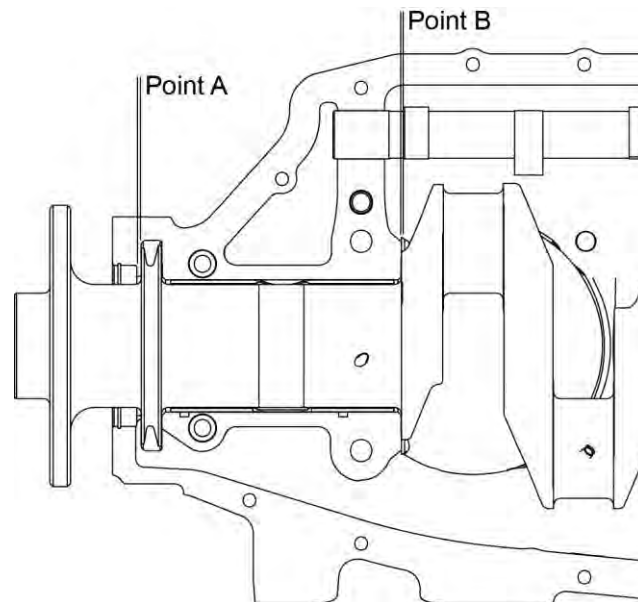

Figure 78
- (1) With the crankshaft installed in the crankcase, move the crankshaft as far forward as possible.
- (2) Use a feeler gage to measure the slinger clearance at Point A (Figure 78). Refer to the limits in Table 3. If the slinger clearance is not within the limits in Table 3, the front face of the slinger can be reground to restore the slinger clearance to within allowable limits.
- (3) Move the crankshaft to the rear as far as possible.
- (4) Use a feeler gage to measure the end play clearance with the crankcase thrust at Point B in Figure 78. Refer to the limits in Table 4. If the endplay clearance is not within the limits in Table 4, examine the crankcase and/or crankshaft for wear or damage. Replace a worn or damaged component.
Slinger Clearance at Point A (Figure 78)
Endplay Clearance at Point B (Figure 78)